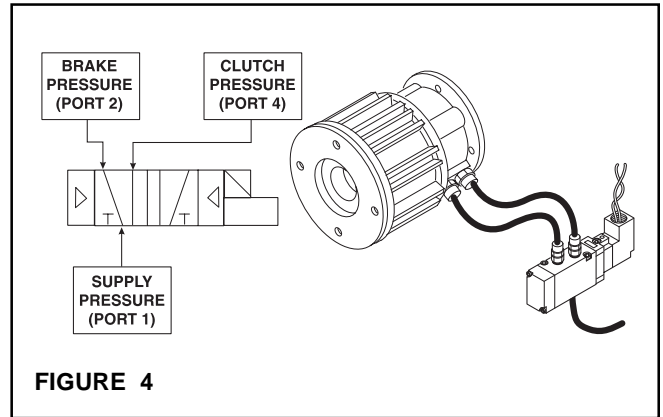

FIGURE 4
1. If the brake is to be set when the solenoid is de-energized, connect the port marked 2 to the brake and the port marked 4 to the clutch (See Figure 4).
2. Connect the air supply line to the inlet port (marked 1) (See Figure 4).